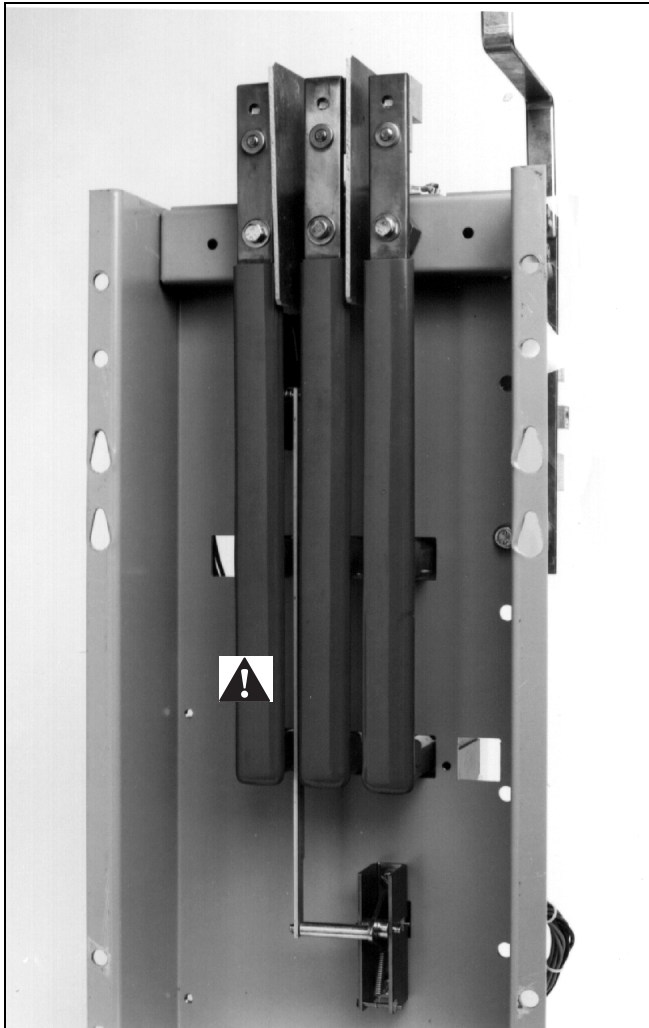

Figure 23. Mounted Load Lug Assembly (225-1200 A Models).
AT THIS POINT, TAKE THE TIME TO REFER TO FIGURE 23 AND BECOME FAMILIAR WITH THE INSIDE REAR OF THE ENCLOSURE AND THE POWER PANEL MOUNTING PROVISIONS AVAILABLE FOR BOTH TOP AND BOTTOM ENTRY. IT WILL FACILITATE REINSTALLATION OF THE POWER PANEL.
Step 4: Remove the operating mechanism from the front of the power panel by removing the six bolts holding the mechanism in position. The molded case switches or optional circuit breakers should not be removed (Figure 23).
THE REAR-MOUNTED LOAD LUGS, DIP-INSULATED BUS BARS, STANDOFF INSULATORS, GLASS POLYESTER PHASE BARRIERS, AND METAL MOUNTING BRACKET ARE DESIGNED TO BE REMOVED AS ONE LOAD LUG ASSEMBLY (FIGURE 23).